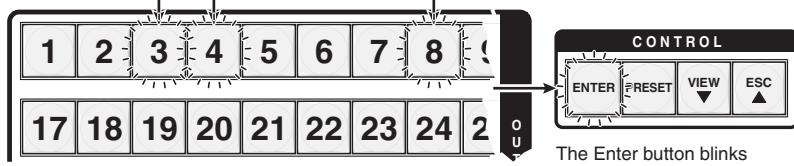

Figure 3-6 — Select an input
- Press and release the input 5 button (figure 3-6).